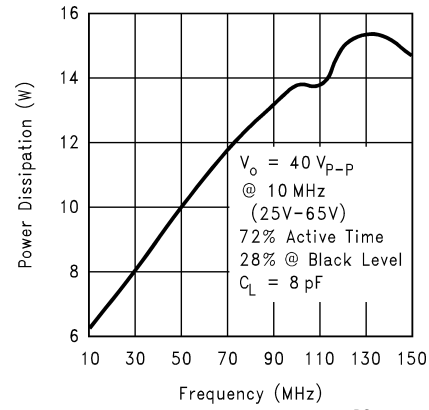

FIGURE 6. Power Dissipation vs Frequency
Figure 6 shows the total power dissipation of the LM2412A vs. Frequency when all three channels of the device are driving an 8 pF load. Typically the active time is about 72% of the total time for one frame. Worst case power dissipation is when a one on, one off pixel is displayed over the active time of the video input. This is the condition used to measure the total power dissipation of the LM2412A at different input frequencies. *Figure 6* gives all the information a monitor designer normally needs for worst case power dissipation. However, if the designer wants to calculate the power dissipation for an active time different from 72%, this can be done using the information in *Figure 14*. The recommended input black level voltage is 1.9V. From *Figure 14*, if a 1.9V input is used for the black level, then power dissipation during the inactive video time is 2.7W. This includes both the 80V and 12V supplies.
3. Subtract the 0.8W from the power dissipation from *Figure 6*. For 100 MHz this would be 13.8 – 0.8 = 13.0W.
The LM2412A case temperature must be maintained below 100°C. If the maximum expected ambient temperature is 70°C and the maximum power dissipation is 13.8W (from *Figure 6*, 100MHz) then a maximum heat sink thermal resistance can be calculated: